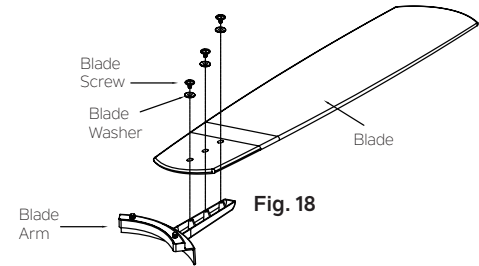

Fig. 18
Step 1. Place the blade over the blade arm, make sure the bottom edge of blade is fully seated against the blade arm, securely tighten the blade to blade arm with three (3) blade screws and washers. Repeat for remaining blades. (Fig. 18)